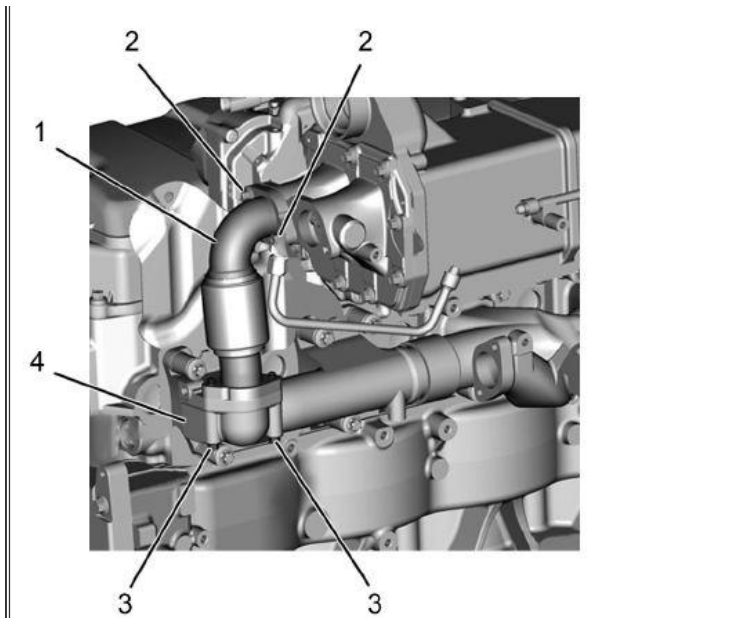

Figure 3: Inboard EGR Inlet Tube
9. Remove inboard EGR inlet tube and two tube gaskets (**Figure 3**, Item 1) . Discard gaskets and bolts (**Figure 3**, Items 2 & 3)